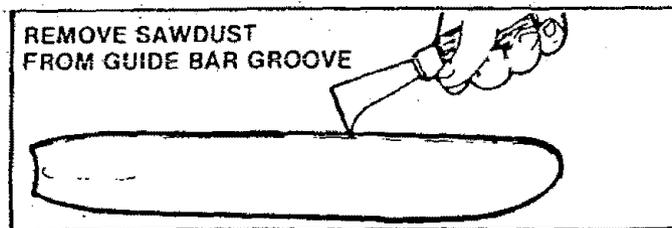

Figure 44
- c. Remove sawdust from the guide bar groove periodically with a putty knife or a wire. Figure 44.